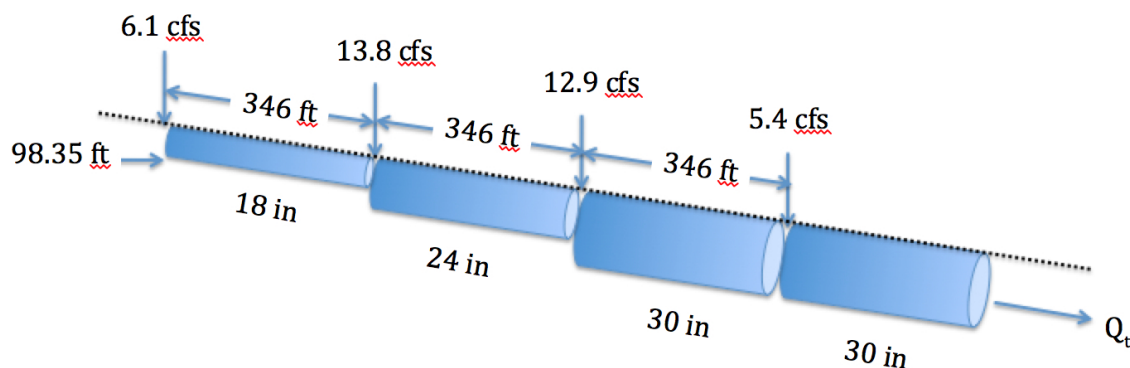

Figure 3: Schematic of a sewer system
Each pipe in Figure 3 is a circular conduit, with a Manning's roughness coefficient of $n = 0.01$. The pipeline system is laid on a slope of 1-percent ($S_0 = 0.01$). The invert elevation at the upstream end of the system is 98.53 ft above MSL. Contributing inflows between each pipe are shown, the pipes connect in appropriate vault boxes.
21. The discharge in the 18-inch pipe in Figure 3 is:
22. The discharge in the 24-inch pipe in Figure 3 is:
23. The discharge in the left-most 30-inch pipe in Figure 3 is:
24. The discharge in the right-most 30-inch pipe in Figure 3 is:
25. The depth of flow in the 18-inch pipe in Figure 3 is closest to:
26. The depth of flow in the 24-inch pipe in Figure 3 is closest to: